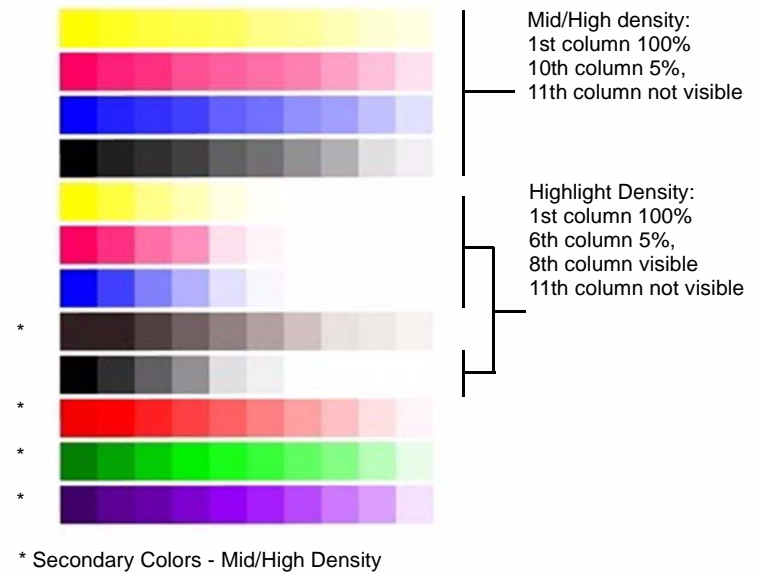

Figure 1 Color Test Pattern
7. Examine the printed test pattern. Compare the output to the Color Test Pattern (Figure 1). Check the density and color shift of the medium/high density areas, and the reproduced density and color shift of the highlights. If a problem is detected, perform the Adjustment.